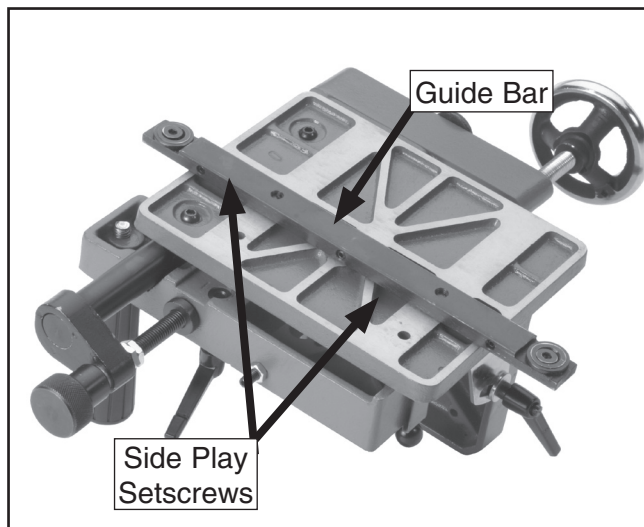

Figure 8. Miter slot guide bar.
3. Remove the jig and set it on a table upside down as shown in **Figure 8**.
4. Use a 2.5mm hex wrench and adjust the side play setscrews shown in **Figure 8** to remove or gain side-to-side play.